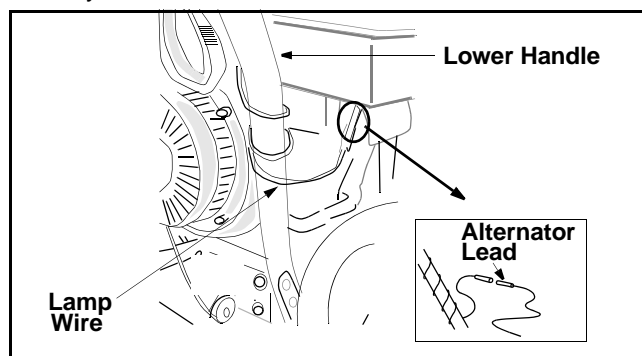

Figure 15
- If so equipped, wrap the wire from the lamp down the right handle until the wire can be plugged into the alternator lead wire located under the fuel tank. See Figure 15. Lamp wire must not interfere with any controls or cables.